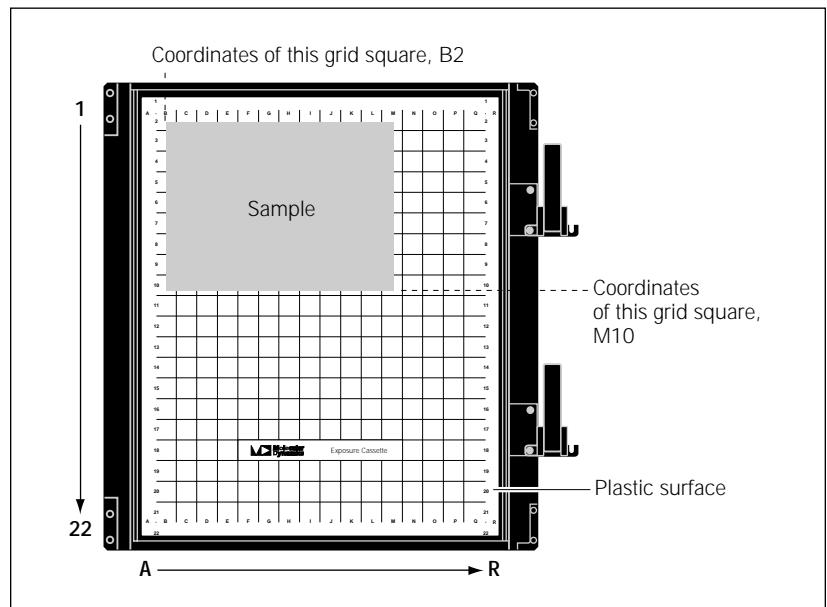

Figure 5-2. Placing the sample in the exposure cassette.
- To avoid possible edge effects on the image, you should place the sample at least 1 cm (0.4 in) from the edge of the screen. For example, use the area B2 through J13 for the small screens and the area B2 through Q21 for the large screens, as shown in figure 5-2.
- Position a rectangular sample so that the shortest edge is along the numbered side of the exposure cassette as shown in figure 5-2. Because each pass of the scan head moves the entire length of the glass platen (from front to back), placing the longest edge of the sample along the scan head path minimizes the scan time. The scan head path is from A to R.
- Align the lanes and rows of the sample with the edges of the grid so that the scanned image will be straight, as shown in figure 5-2.
3. Make a note of the grid coordinates of the area you want to scan (as shown in figure 5-2). The grid coordinates in the exposure cassette also appear in the Typhoon instrument (section 6.3) and in the Scanner Control window (section 6.5.3).